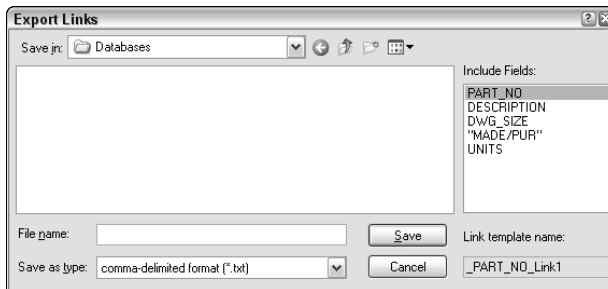

**Figure 20-12:** The Export Links dialog box.
2. At the **Select objects:** prompt, choose the objects whose links you want to export. When you complete object selection, AutoCAD opens the Export Links dialog box, shown in Figure 20-12.